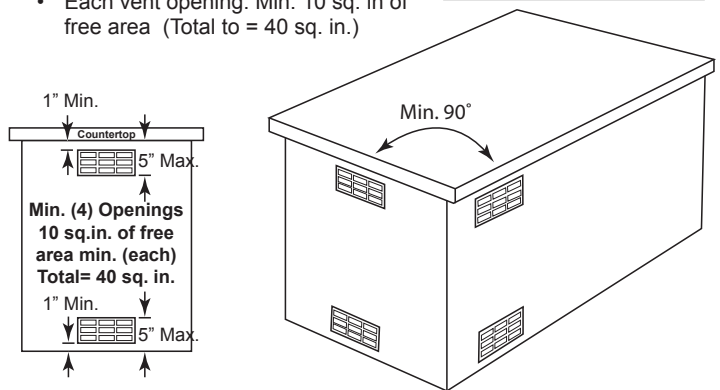

Figure 9
- Two openings should be in the side walls of the enclosure, at the top and spaced a minimum of 90° from each other. The openings should begin 1" or less below the countertop edge and end no more than 5" below the countertop edge. See Figure 9.
- **The openings must remain unobstructed:** The clearance between the openings and any items outside of the enclosure is a minimum of 6". The clearance between the openings and any items within the enclosure is a minimum of 2". This provides free flowing air inside and outside the enclosure to keep the island cool during operation of the side burner. See Figure 9.